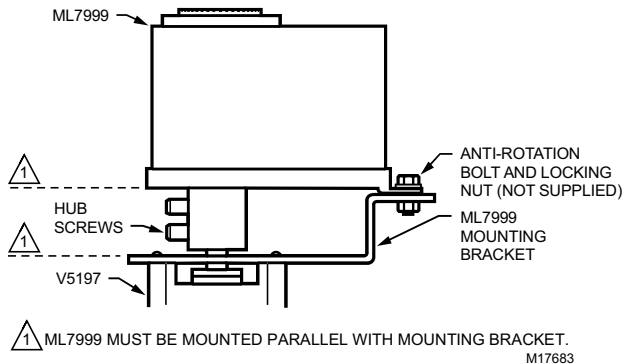

Fig. 3. Mounting the ML7999 on the V5197 Valve.
4. Install the mounting bracket accessory (not included), if needed. See Fig. 3.
7. Tighten the hub setscrews (4) against the shaft to a torque of 60 lb-in.